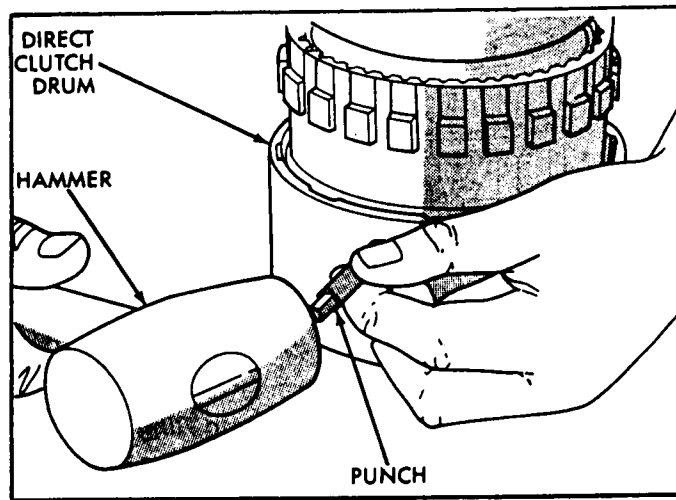

Figure 19
26. Mark position of annulus gear and direct clutch drum for assembly alignment reference, as shown in Figure 19, with a small center punch or scribe.